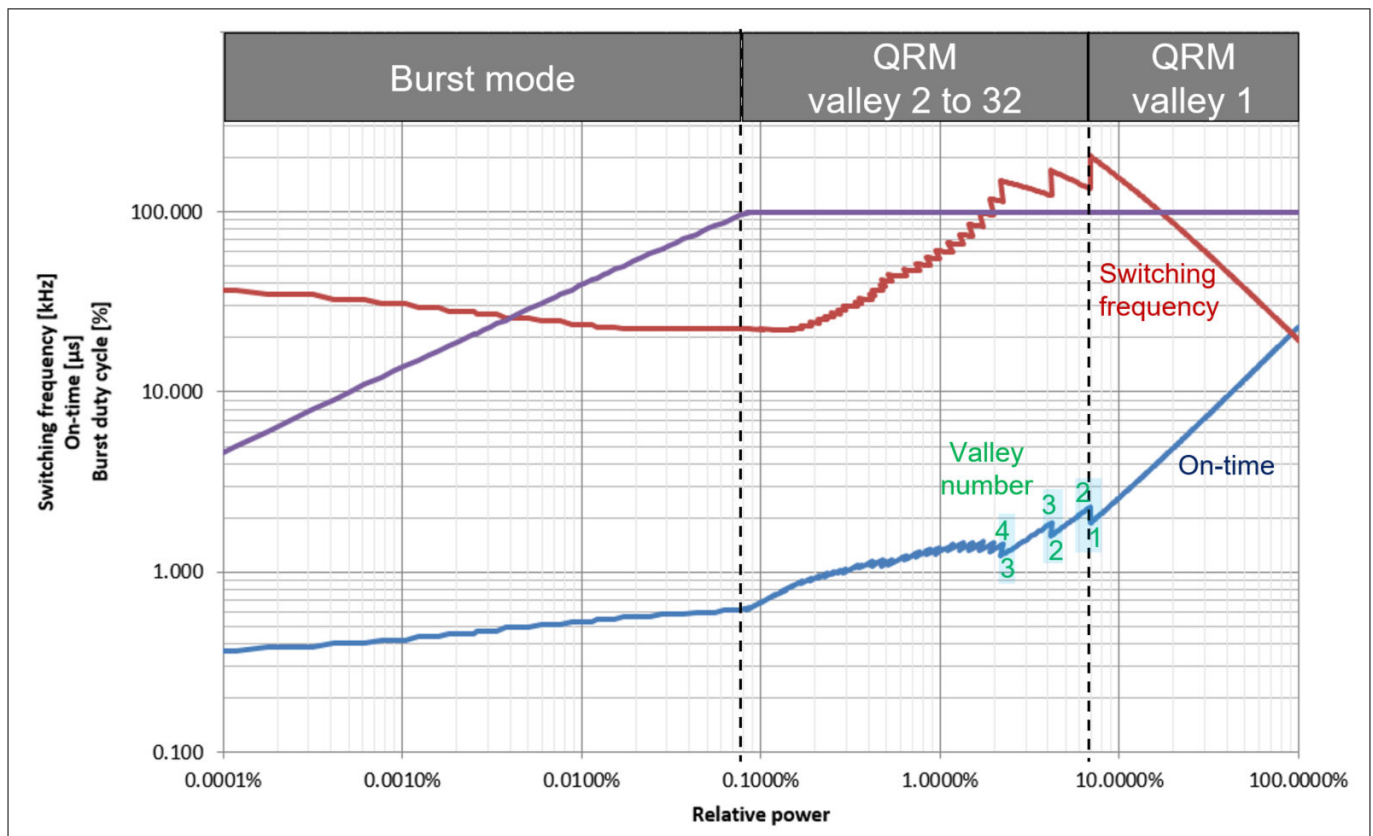

Figure 8 Exemplary switching characteristics versus relative power, with on-time compensation for valley changing
Figure 8 areas highlighted in blue show the on-time compensation effect (in zig-zag pattern) when, for example, the QRM valley number is increased from 1 to 2, from 2 to 3, and from 3 to 4. When the relative power is further decreased, the on-time compensation continues at higher valley changing position (in smaller zig-zag), until it reaches the maximum valley number of 32. To ensure the QRM switching frequency reduction stays above the audible range, the QRM off-time is limited to a maximum value of t_{off} (47 μ s typ.).
- the system-dependent on-time compensation effect for valley number change (see Figure 8)